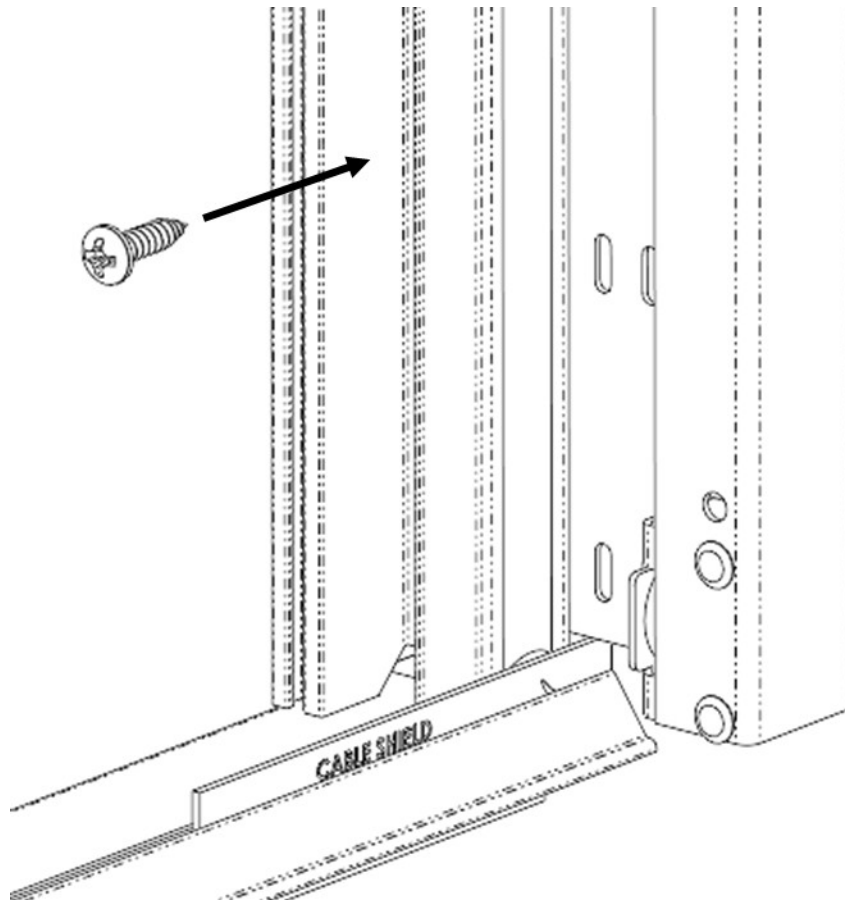

Figure 34. Screw the guide channel and cable shield to the door opening
3. With the gauge still in place, secure the guide channel and cable shield into place on the door opening with screws (not included), as shown in Figure 34.